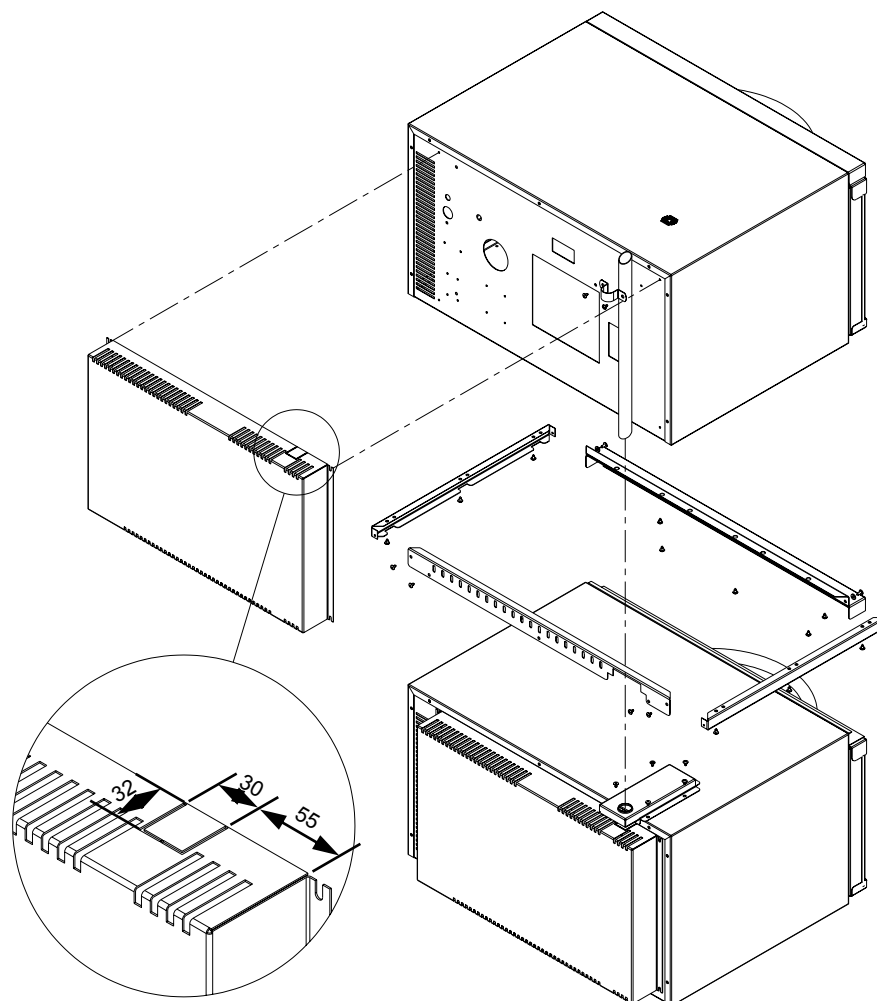

Figure A.2
**C. Stacking the Ovens** (Refer figure A.2)